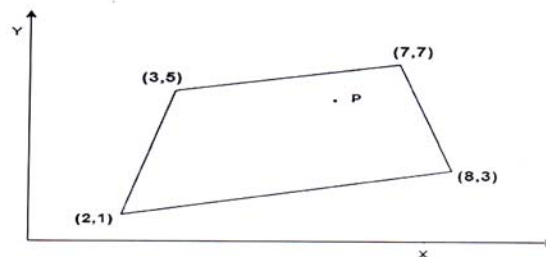

Fig. 2
- Q2) a)** Determine the Cartesian Coordinate of point P ($\xi = 0.5$, $\eta = 0.6$), shown in Fig.2 [10]